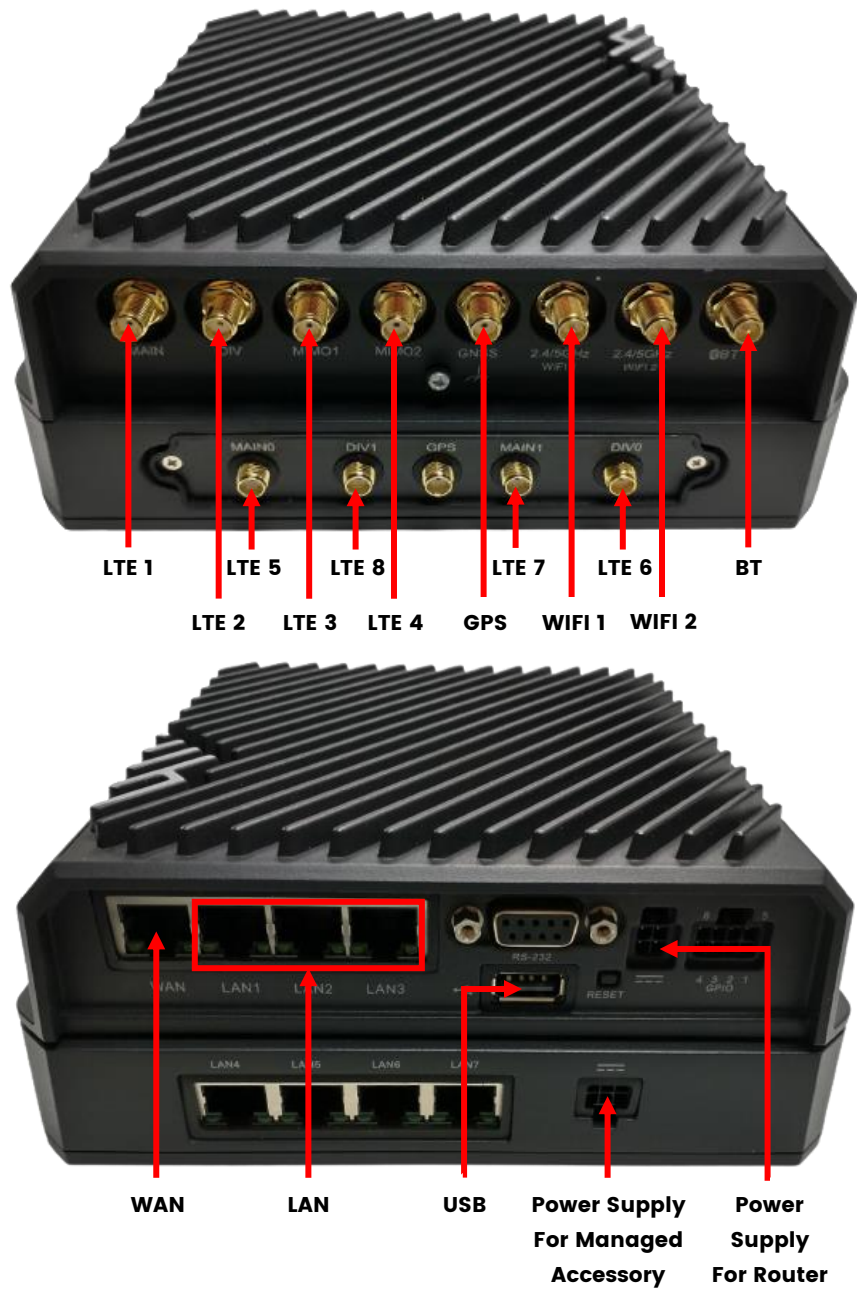

Figure 14: Cradlepoint R1900 Connections
- B. **For R1900 with the managed accessory**, connect the router power supply to the power supply port on the managed accessory, shown in Figure 14.